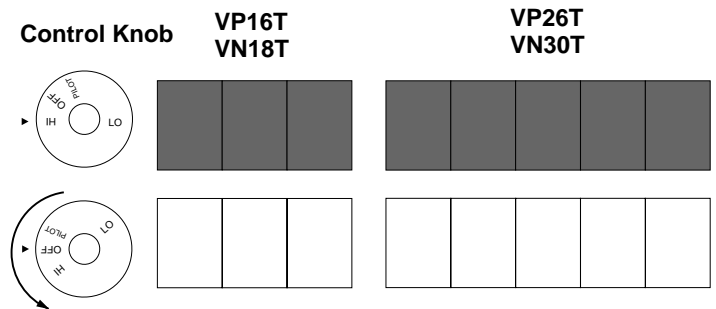

Figure 25 - Burner Patterns
8. Turn thermostat control knob counterclockwise  to the desired heating level. For models, VP16T, VN18T, VP26T, and VN30T, the main burner should light. Set control knob to any heat level between HI and LOW (see Figure 25). For infrastat models, the plaque directly above the pilot should light.